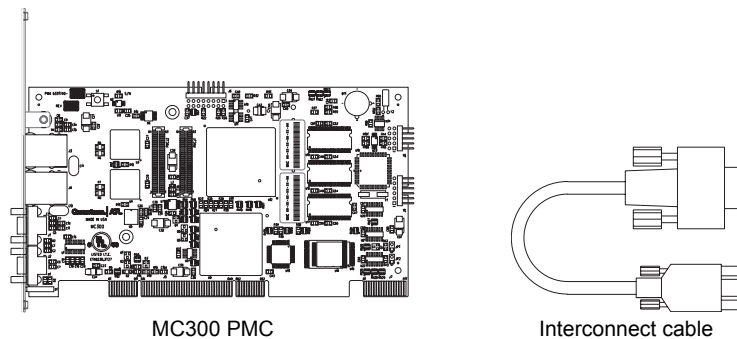

Figure 1 Main Installation/FRU Components
- 3 Check the contents of the MC300 PMC Upgrade Kit (see figure 1).